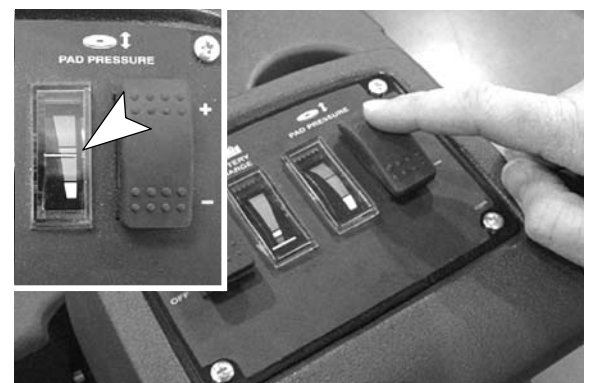

FIG. 10
4. Press the pad pressure switch to increase (+) or decrease (-) the pad pressure. Adjust the pad pressure so that the pad pressure meter reads within the green zone (Figure 10).